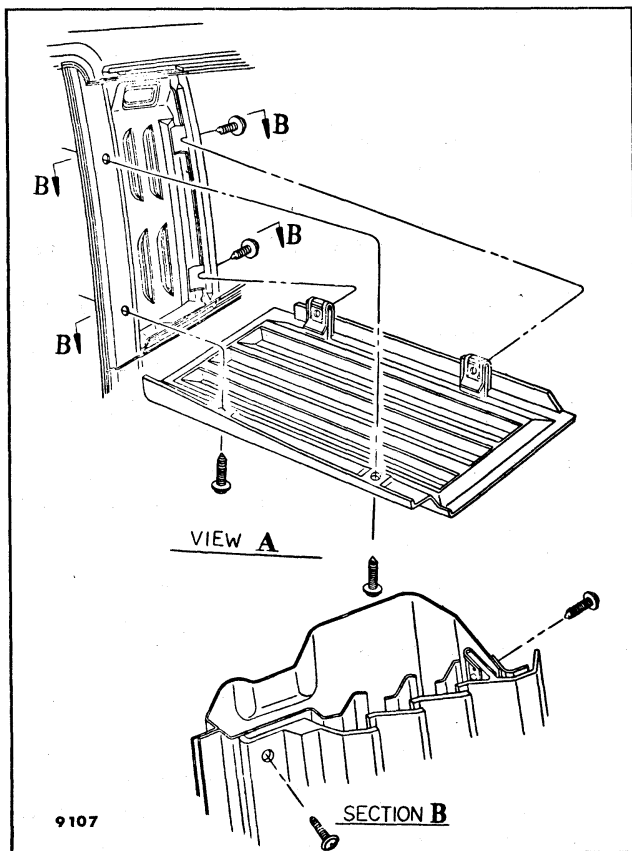

Fig. 4-13 - Louver Assembly - "H-07" styles
1. Remove two louver to body lock pillar (above belt) attaching screws (Fig. 4-13).
5. Remove two louver to body lock pillar attaching screws from body upper lock pillar, and remove louver (Fig. 4-13).